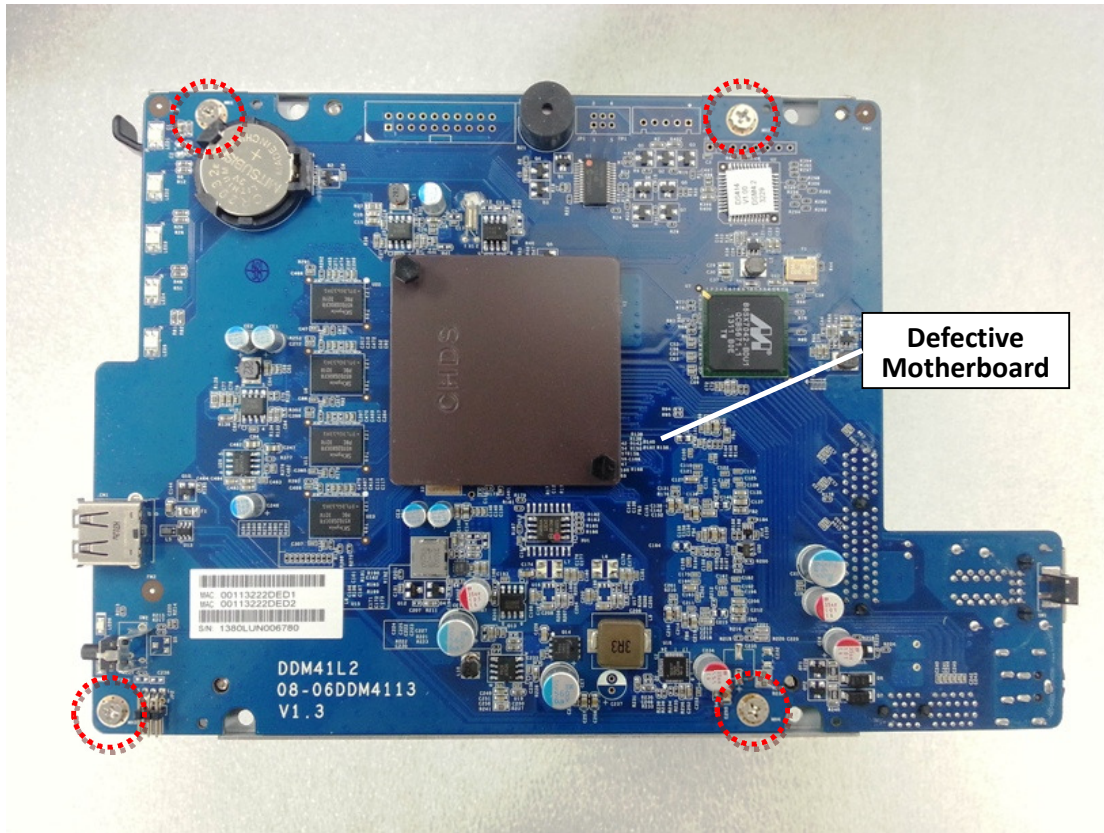

Fig. 22
2.1.13 Release the four (4) screws (Marked by the red circles). (Fig. 22)